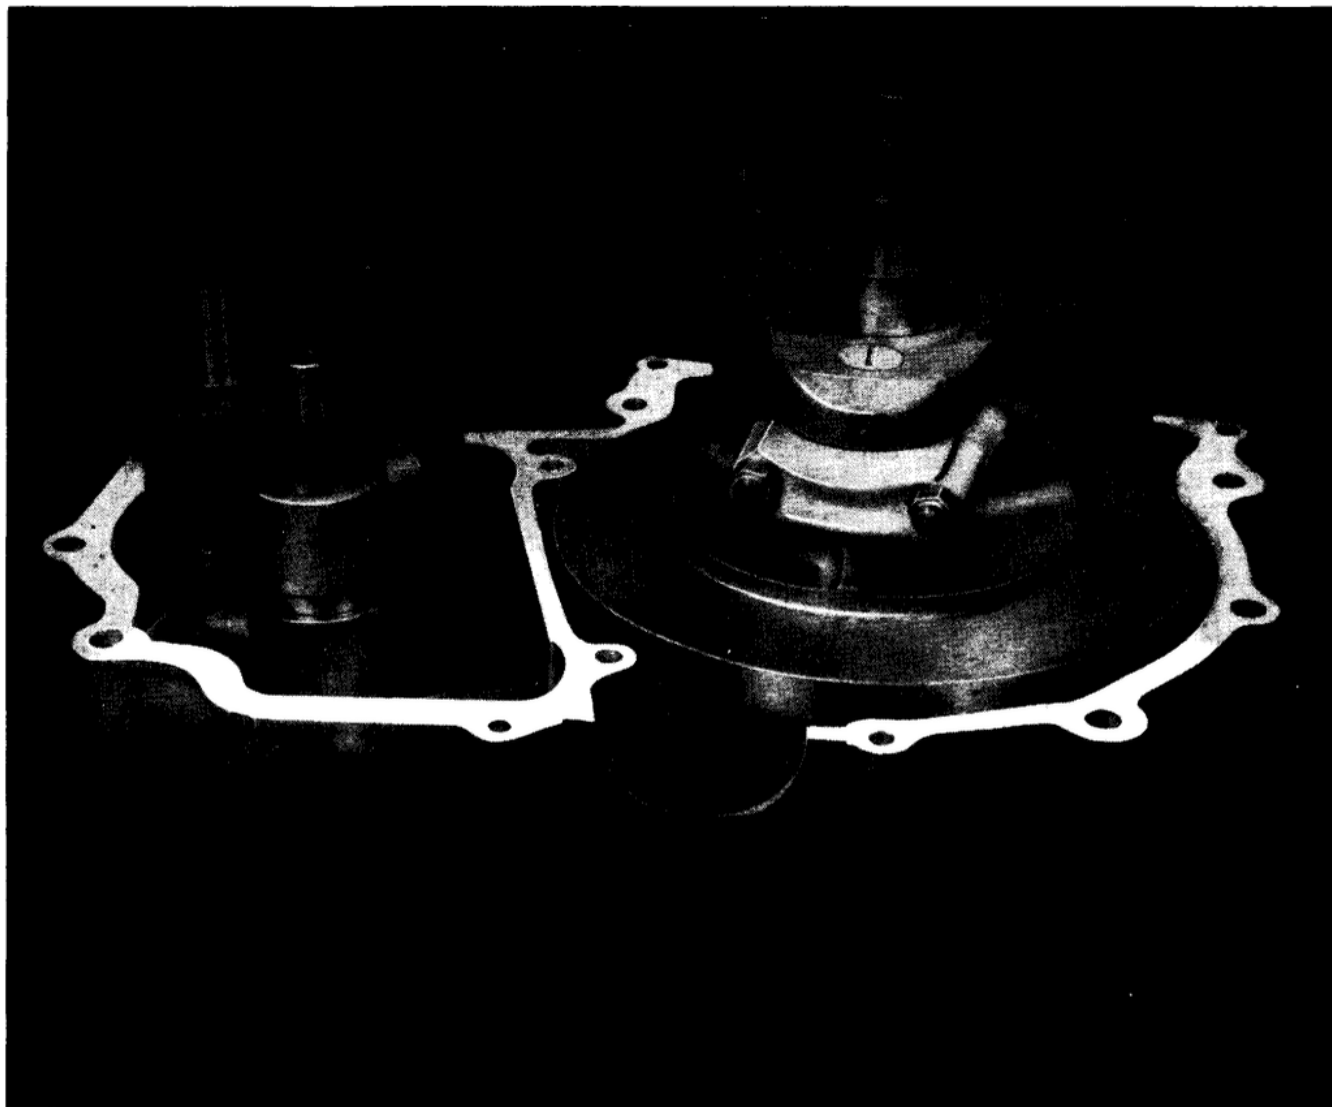

FIG. 31 *Assembling the Lightweight Engine*
Fit the selector drum (20) with gear cluster as shown in fig. 31.